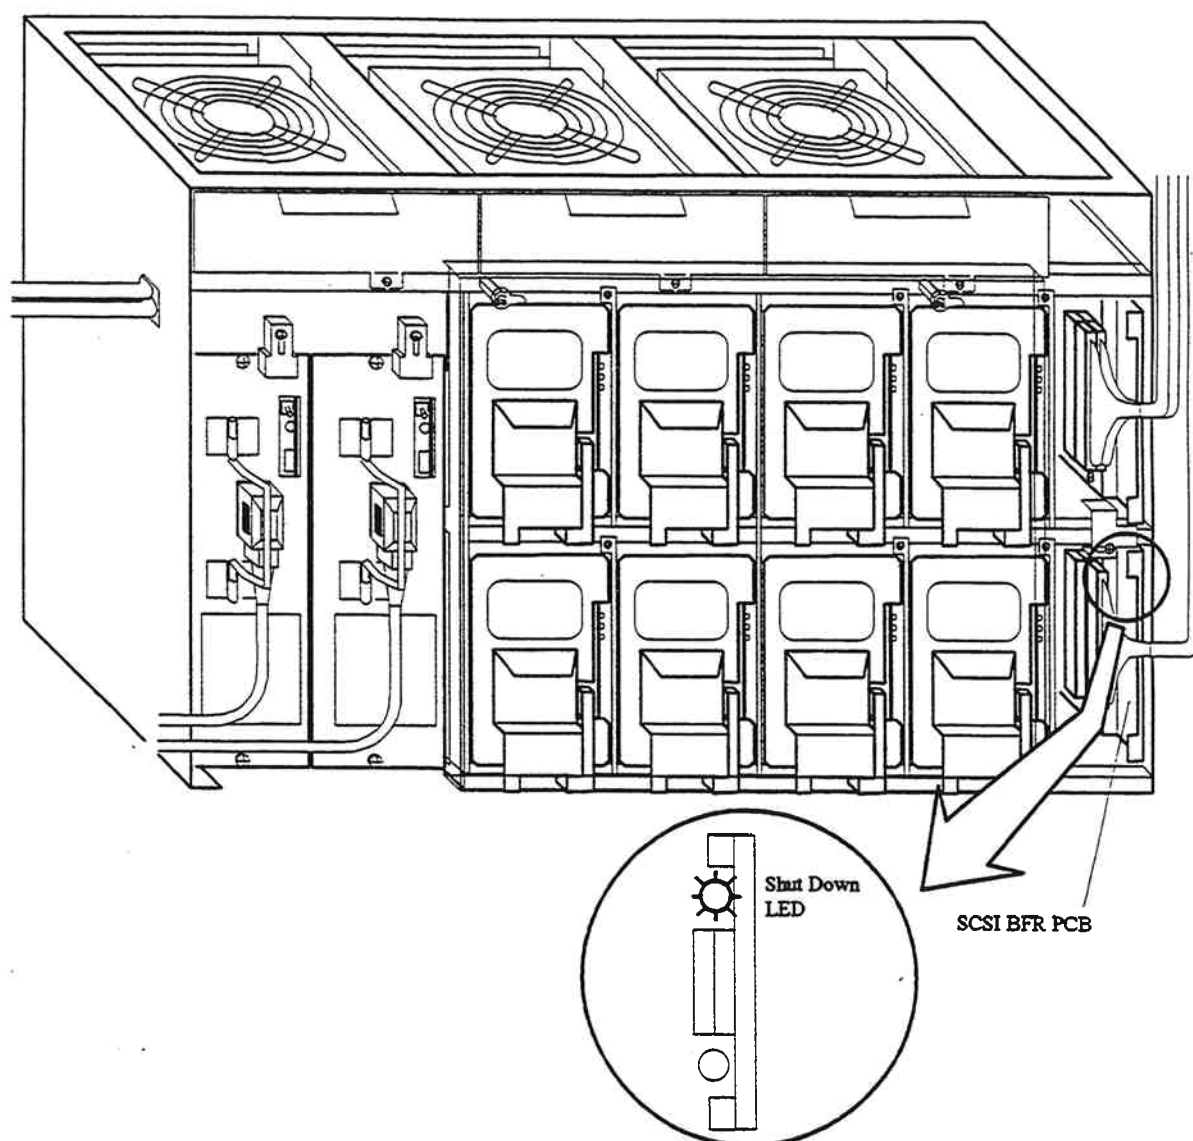

Fig. 3.3.13.2.5-6 Confirmation of the Shut Down LED Light
7. Connect the SCSI interface cables to the SCSI BFR PCBs in the second DKU chassis referring to figures 3.3.13.2.5-7 and 3.3.13.2.5-8.